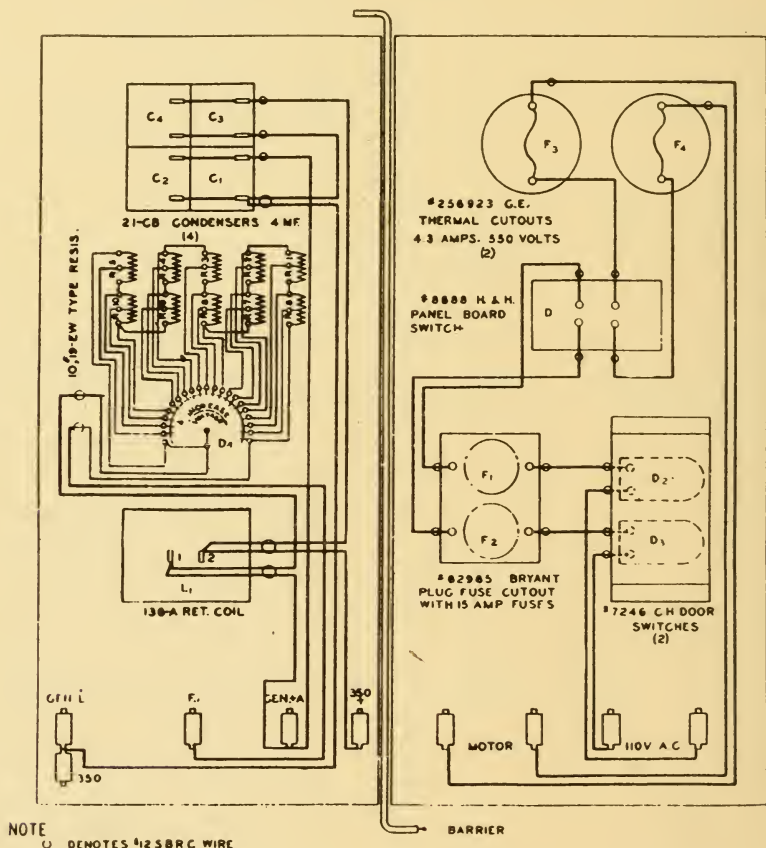
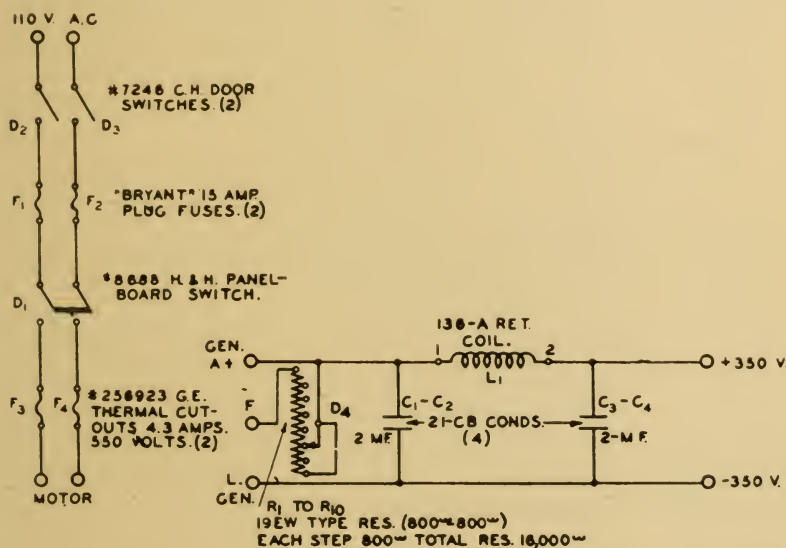

FIGURE 112.—Wiring diagram of control cabinet for sound supply motor-generator.
FIG. 113.—Schematic or simplified presentation of the circuits of Figure 112.
Figure 112 is the wiring diagram of the control box for a sound supply motor generator. To the beginner it may seem complicated, and difficult to understand or trace. (8) But let us look at Figure 113, which is the schematic or skeleton drawing of the identical circuit.
Figure 113 is about as simple and understandable as any such electrical arrangement can possibly be.
Figure 112 shows the same equipment and wiring as Figure 113, drawn exactly as they are placed and wired in the physical cabinet. Every part shown in Figure 113 can be located in Figure 112 by reference to the part numbers. For example, the filter retard coil L-1 is shown at the lower left of Figure 112, just above the field rheostat terminal F.
Just above L-1, in Figure 112, is a complicated-seeming arrangement of resistors and a tap-switch, which would be troublesome to trace in detail if Figure 113 did not explain to us exactly what that resistance is, and precisely how it is wired into the circuit. It is, of course, D-4, the generator field control, or voltage regulator. There will never be the least occasion to trace its wiring in detail except in case of trouble within that resistor itself, or in its tap-switch contacts. Everything else the projectionist will ever need to know about it is most conveniently shown in Figure 113.